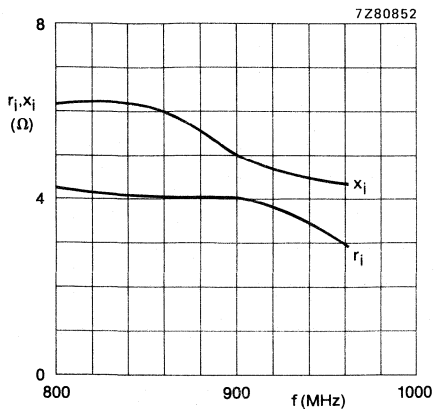

Fig.9 Input impedance (series components) as a function of frequency.
**Conditions for Figs 9, 10 and 11:**